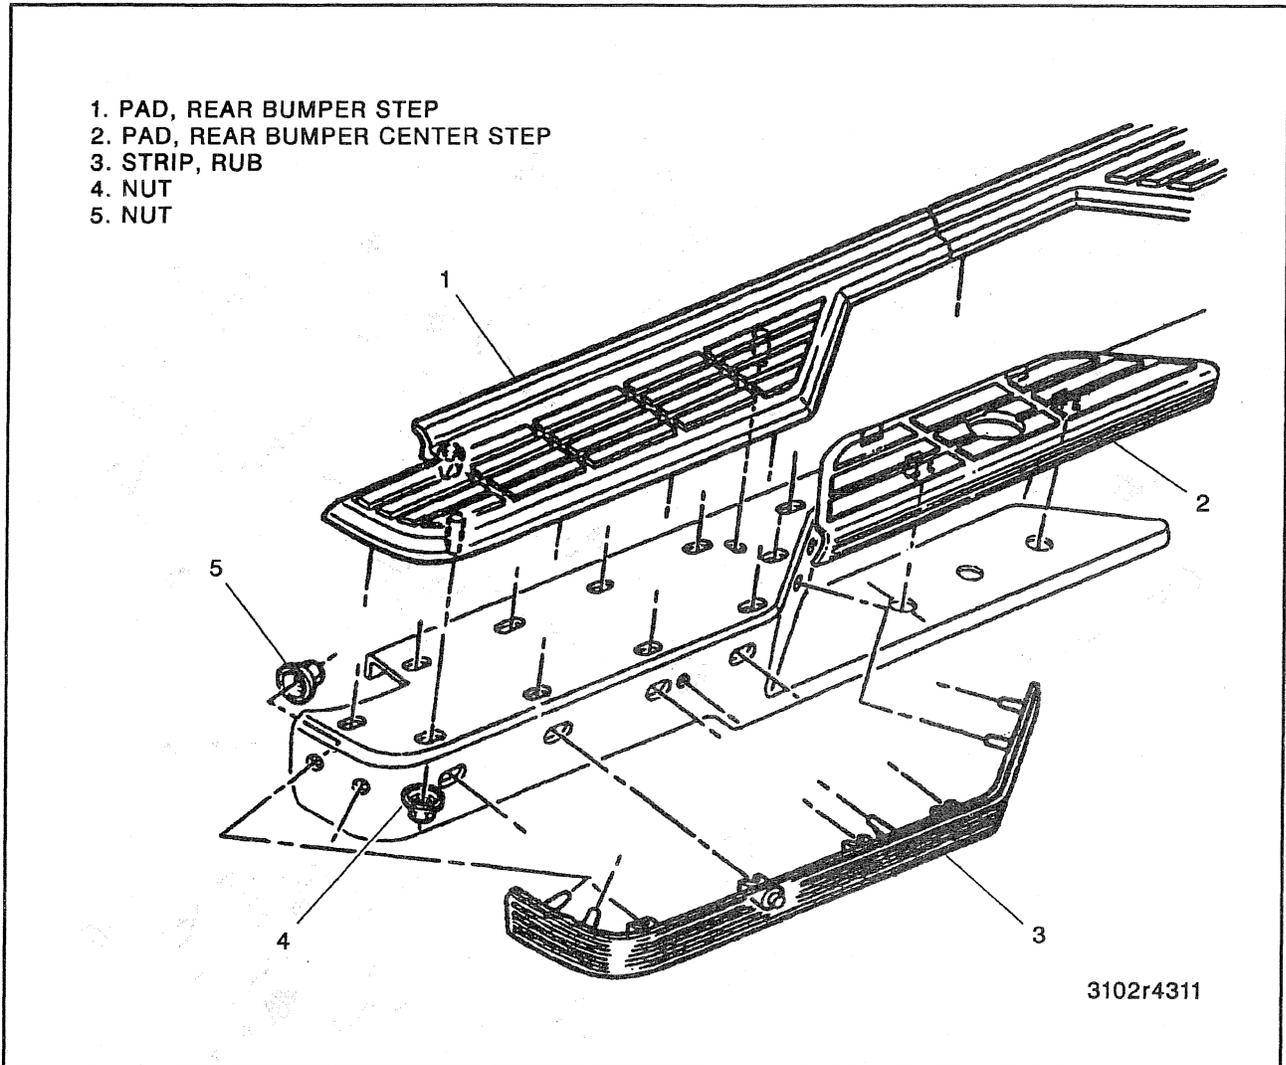

Figure 8—Rear Bumper Step Pads and Rub Strips
↔ Remove or Disconnect (Figure 8)
→← Install or Connect (Figure 8)
- Align the bumper (figure 8).